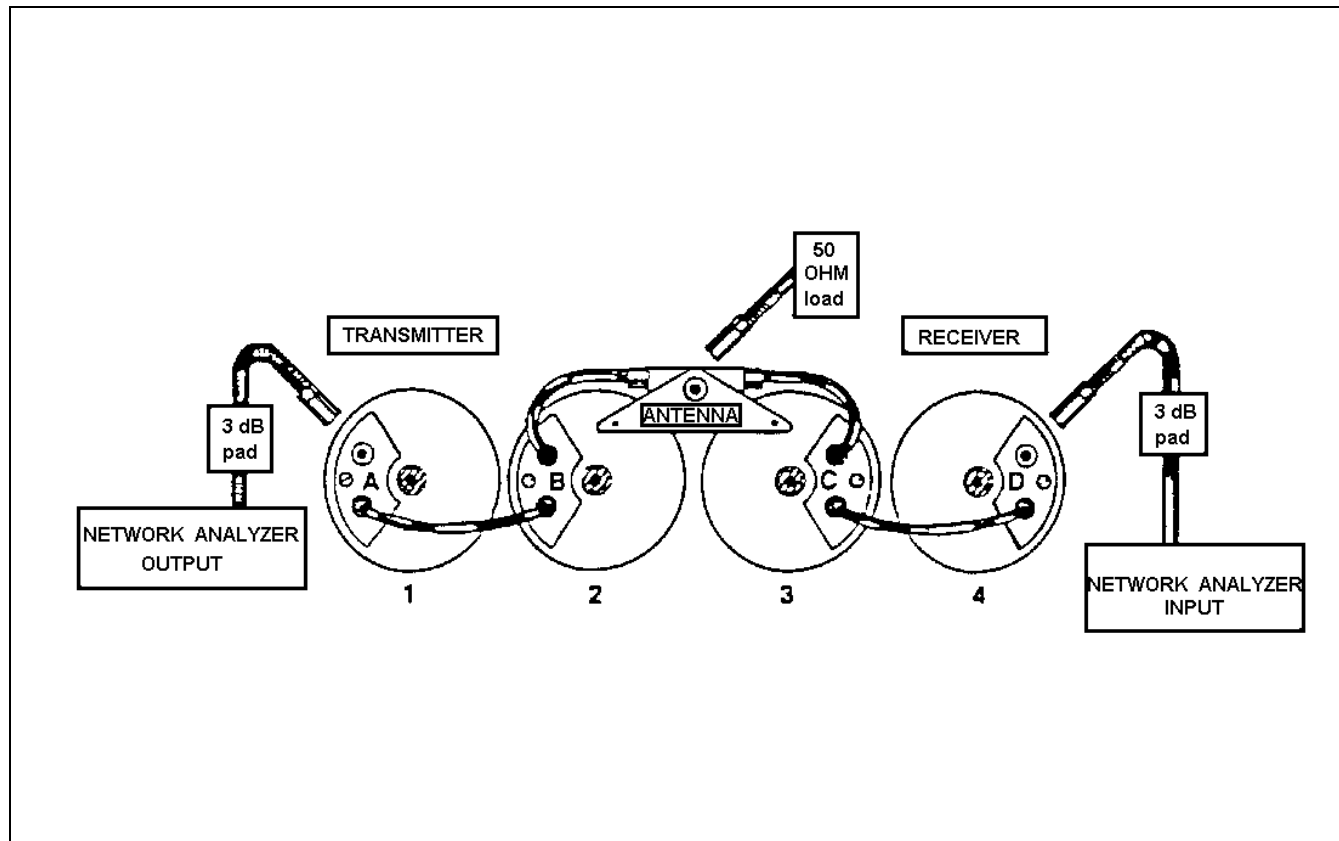

Figure 4
- Connect the output of the network analyzer (or tracking generator) to the transmit port of the duplexer and the input of the network analyzer (or spectrum analyzer) to the receive port of the duplexer. Terminate the antenna port of the duplexer with a known good 50 ohm load termination. (See Figure 4.)